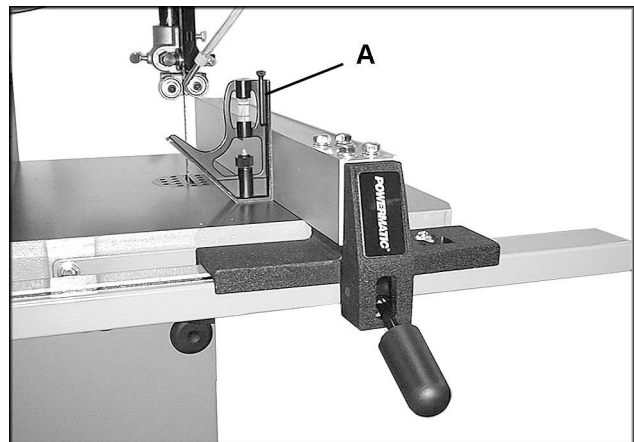

Fig. 18
11. Use a square to check that the fence is perpendicular to the table top (A, Fig. 18). If it is not, one end of the front and/or rear rails will need to be loosened and raised or lowered to make the rail (and thus the fence) parallel with the table top.